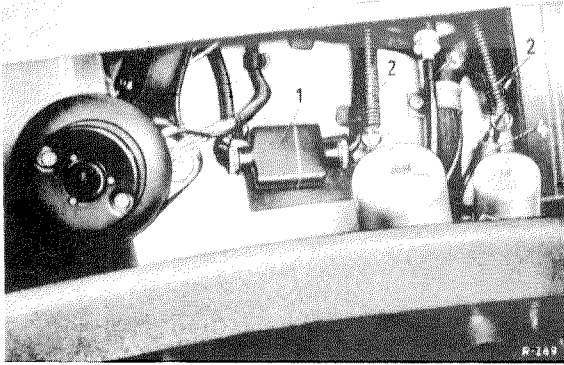

Fig. 54—11/2
3. Unscrew the capillary tube (1) for the cooling water radiator thermometer at the left side of the engine and pull the capillary tube, including rubber cuff (3), toward the rear through the center of the engine compartment panel (Fig. 54 — 11/3).
4. Disconnect the two instrument panel retaining springs (2) (see Fig. 54 — 11/2).